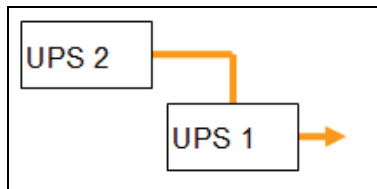

Figure 169. Hot Standby
- **Hot standby mode:** When the upstream UPS powers the load, the downstream UPS is on bypass (see Figure 169).